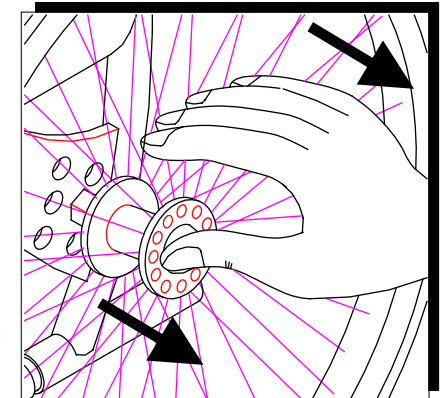

fig. 2
- slip off the complete wheel (fig. 2).